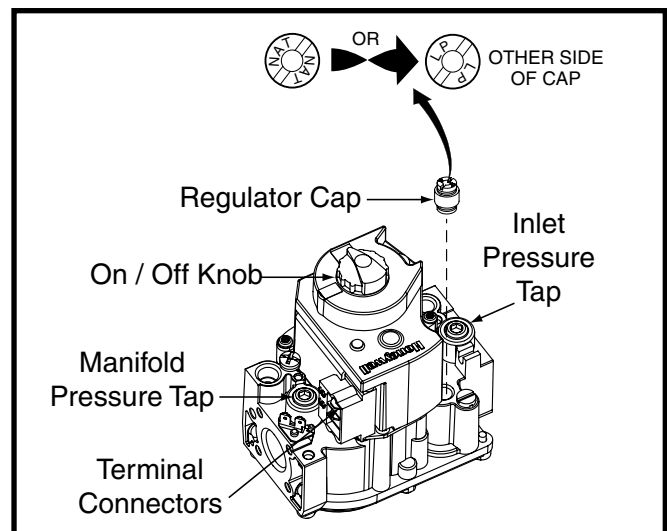

Figure 19. Gas Valve
Converting single stage valves to LP/Propane requires the replacement of the burner orifices and flipping the regulator cap to the side marked LP. The end facing up should now read LP. See Figure 19.
5. Turn the gas valve ON/OFF knob to the OFF position. See Figure 19.
2. Using a 3/16" Allen wrench, remove the plug from the inlet pressure tap (INLET side of gas valve). See Figure 19 \(page 20\).
4. Turn the gas valve ON/OFF knob to the ON position. See Figure 19 \(page 20\).
3. Using a 3/16" Allen wrench, remove the manifold pressure tap plug located on the outlet side of the gas valve. See Figure 19 \(page 20\).